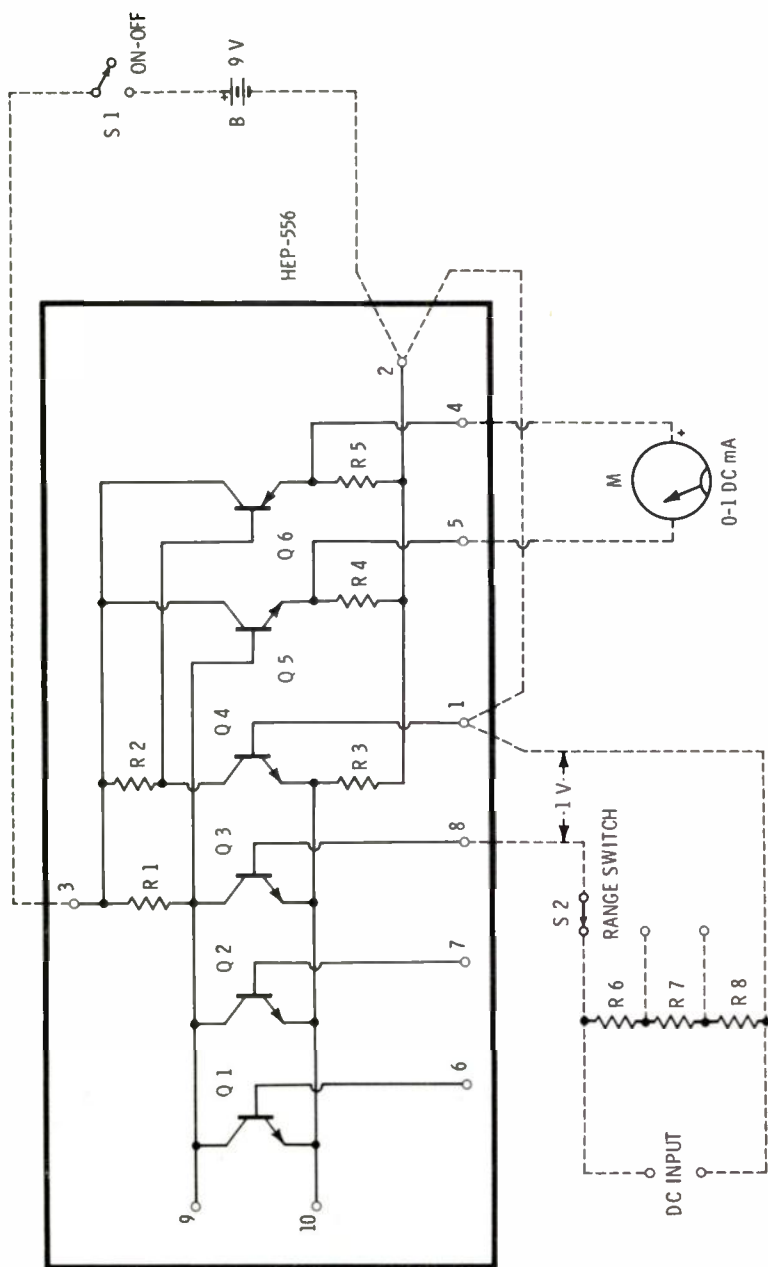

Fig. 1-9. Use of Motorola HEP-556 IC as electronic DC voltmeter.
Each IC has been developed for a specific, primary application, either linear or digital. For example, its internal circuit may be that of an operational amplifier, three-input gate, flip-flop, or similar device. But, because points of the circuit are available through the IC terminals, the circuit (or portions of it) may be used at will for purposes other than the primary use. Thus, the Motorola HEP-556 integrated circuit is a three-input gate (a digital device); but, by means of external wiring and components (as shown by dotted lines in Fig. 1-9), it is easily converted into an electronic DC voltmeter (200,000 ohms per volt). The *outboard* components are ON-OFF switch (S1), a range-switching circuit (S2-R6-R7-R8), 9-volt battery (B), and 0-1 DC milliammeter (M). The unused components inside the IC (transistors Q1 and Q2) are simply ignored, and unused terminals 6, 7, 9, and 10 are left hanging. It is in this way that designers and experimenters are able to adapt existing IC's to a variety of applications.